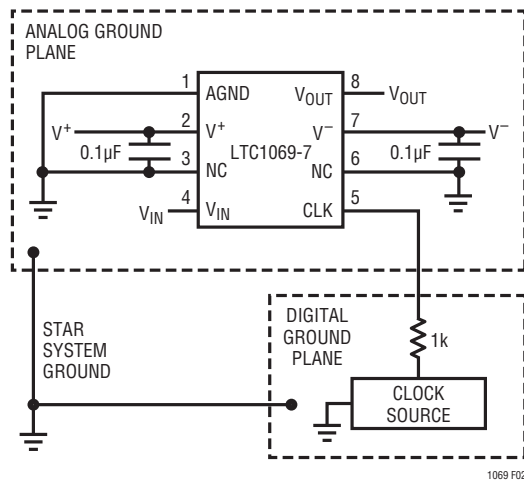

Figure 2. Connections for Dual Supply Operation
**V+, V- (Pins 2, 7):** Power Supplies. The V+ (Pin 2) and V- (Pin 7) should be bypassed with a 0.1 $\mu F$  capacitor to an adequate analog ground. The filter's power supplies should be isolated from other digital or high voltage analog supplies. A low noise linear supply is recommended. Using switching power supplies will lower the signal-to-noise ratio of the filter. Unlike previous monolithic filters, the power supplies can be applied in any order, that is, the positive supply can be applied before the negative supply and vice versa. Figure 2 shows the connections for dual supply operation.